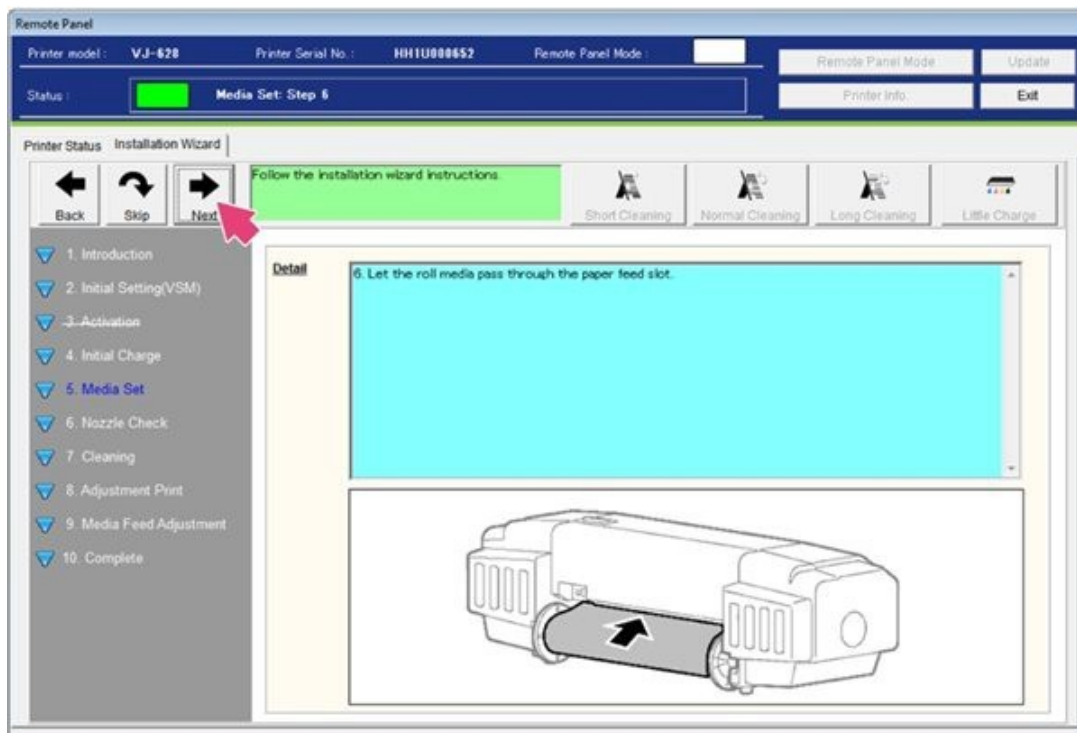

Figure 69
56. Feed the media into the paper feed slot; then select **Next**. See Figure 69.